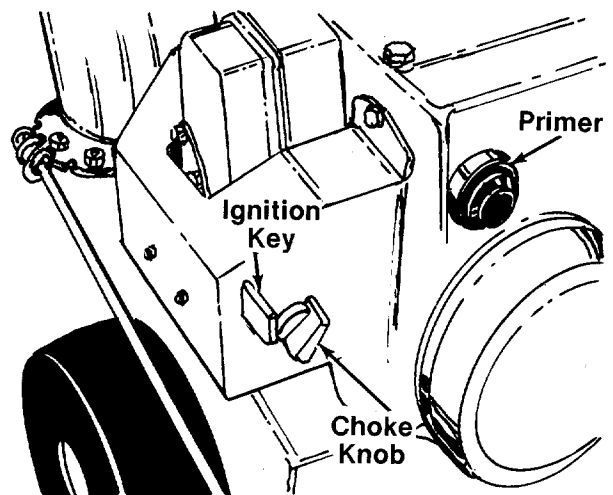

FIGURE 21.
Safety Ignition Switch (See figure 21)
1. Turn choke knob to "full" position. See figure 21.
2. Push primer two (2) or three (3) times. See figure 21.